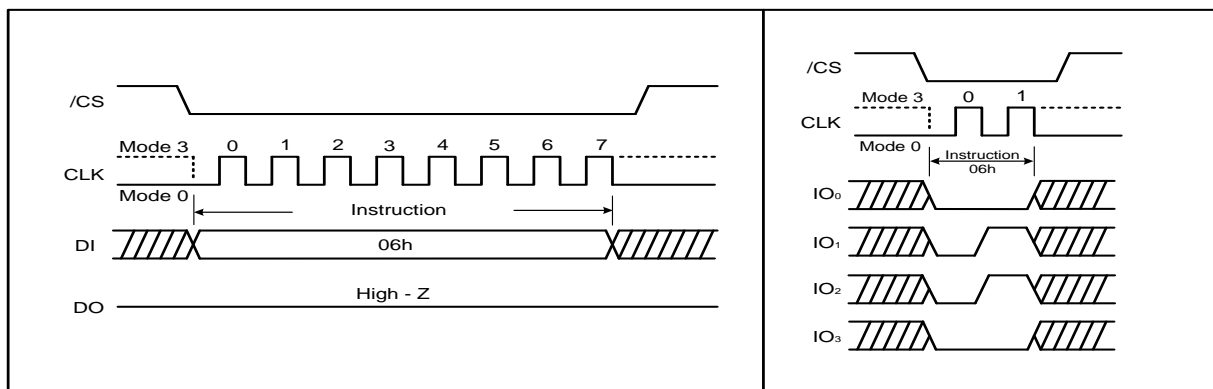

Figure 7. Write Enable Instruction for SPI Mode (left) or QPI Mode (right)
The Write Enable instruction (Figure 7) sets the Write Enable Latch (WEL) bit in the Status Register to a 1. The WEL bit must be set prior to every Page Program, Quad Page Program, Extended Quad Page Program, Sector Erase, Block Erase, Chip Erase, Write Status Register, Write Configuration Register, Write Extended Address Register, Write password, Write global freeze bit or Erase/Program Security Registers instruction. The Write Enable instruction is entered by driving /CS low, shifting the instruction code “06h” into the Data Input (DI) pin on the rising edge of CLK, and then driving /CS high.